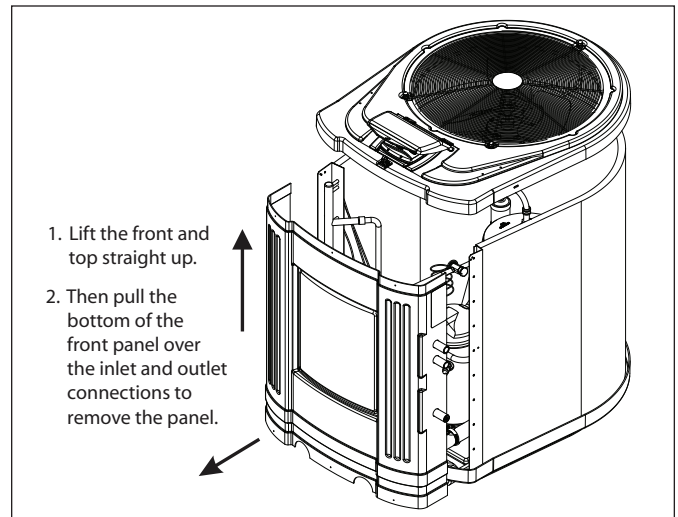

Figure 3. Remove Top Panel and Front Door
1. Remove the six (6) screws from around the perimeter of the top panel. These screws hold the top to the frame of the evaporator coil.
2. Remove the five (5) screws that hold the front door of the heat pump to the base and to the top panel.
3. Lift the top panel up enough so the bottom of the panel clears the inlet and outlet connections on the heat pump. Then pull the bottom of the front door forward, over the inlet and outlet connections. Remove the front door and place it to the side, away from the heat pump. See Figure 3.